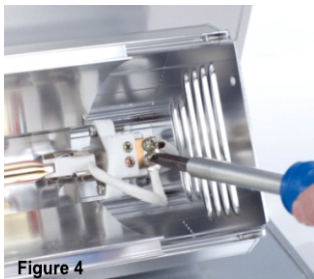

Figure 4
**Step 4:** Loosen screw from each side to remove wire leads from terminals. See figures 4 & 5.